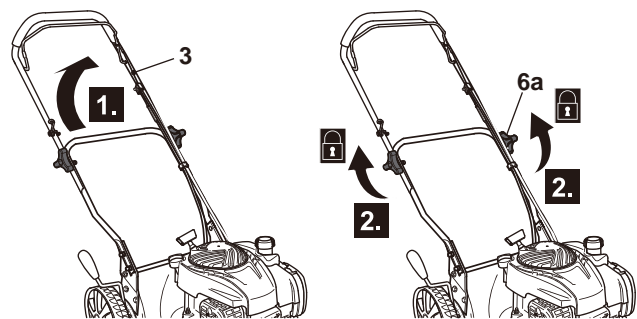

Fig. 5
7. Unfold the upper handle bar (3) and use the locking knob (6a) to fix it. There are 3 positions for height adjustment of the handle (Fig. 5).